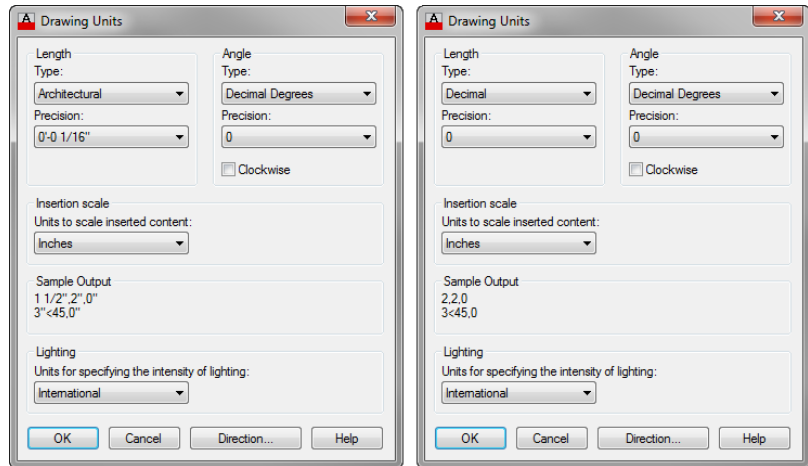

FIGURE 3.3: The Precision drop-down list for Architectural units (left) and Decimal units (right)
6. Click the down arrow in the Precision drop-down list in the Length group to display the choices of precision for Architectural units (see Figure 3.3).